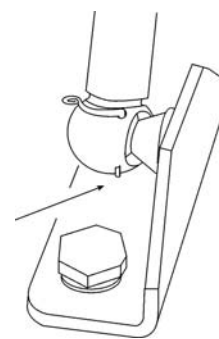

Figure 4-5.
8. Install the new door stop as it was removed. Make sure each retaining clip is installed so that the tip of the clip is showing at the bottom of the door stop (Figure 4-5).